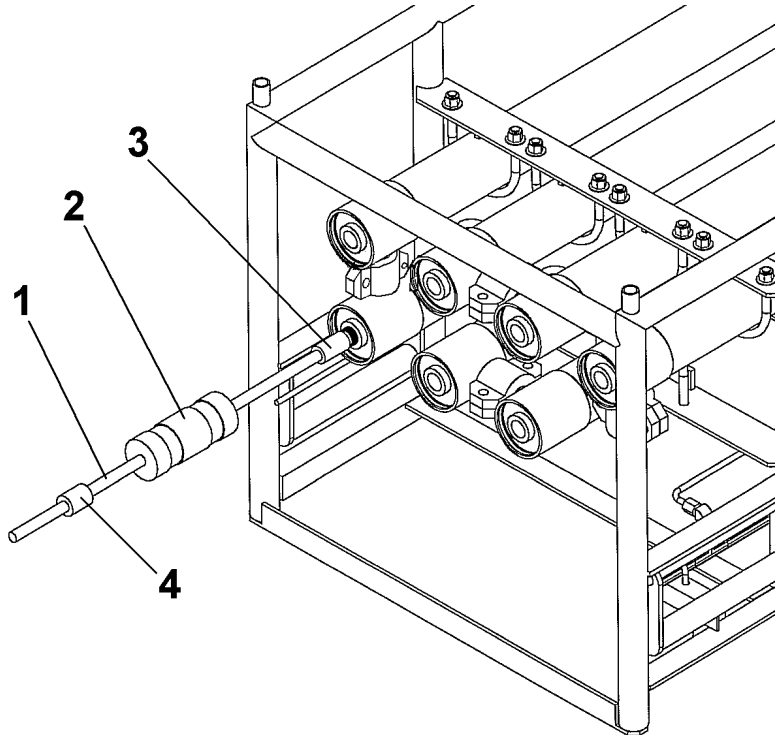

Figure 5. End Cap Removal Tool.
3. Thread the brass adapter (3) into the end cap. Tighten as far as possible. Hand tighten only. See figure 5.
4. Thread the slide rod (1) onto the adapter (3).
5. Use the slide hammer (2) to hammer against the stopper (4) to remove the end cap.
1. Refer to Figure 5 for this procedure section.
4. Thread the brass adapter (3) in the end cap. Tighten as far as possible. Hand tighten only. See figure 5.
5. Thread the slide rod (1) on the brass adapter (3).
6. Use the slide hammer (2) to hammer against the brass adapter (3). Stop when end cap bottoms out and snap ring groove is exposed.